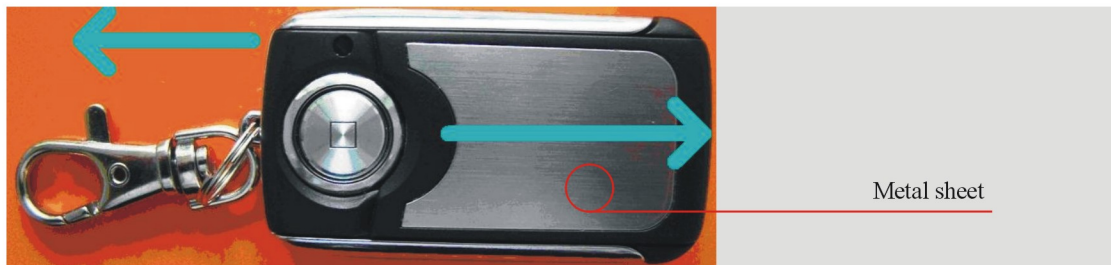
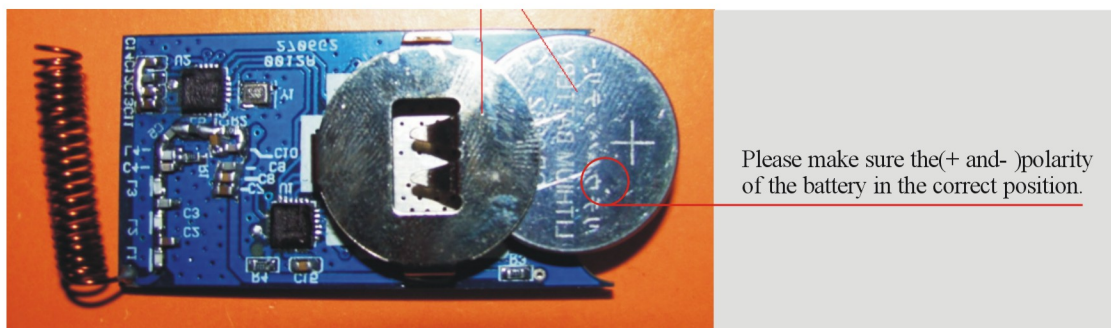

Fig.5
Fig.6
Step 2: Slide open the metal sheet (Fig.5) and reveal the inside shown in Fig.6.
Step 3: Replace a 3Vdc (CR2032 Battery) according to Fig.6.